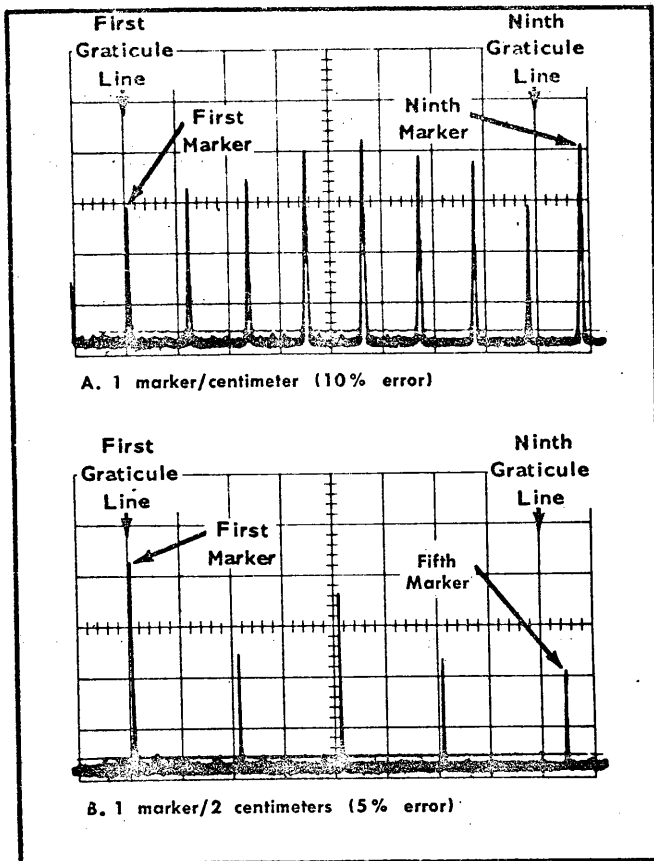

Fig. 5-1. Measuring dispersion accuracy.
a. Requirement—Dispersion accuracy for the MHz/CM range is listed in Table 5-1. IF CENTER FREQ control range should equal or exceed  $\pm$  and  $-$  25 MHz from its centered (000) position. Dispersion accuracy and display linearity must remain with the listed specifications of Table 5-1 to the  $\pm$  and  $-$  25 MHz positions of the control.
e. Check the dispersion accuracy and linearity for each MHz/cm setting of the DISPERSION selector as listed in Table 5-1. (See Fig. 5-1 and 5-2.) The Horizontal Position control or the IF CENTER FREQ control may be used to align the prime markers to the graticule divisions. The RESOLUTION control should remain coupled with the DISPERSION selector.